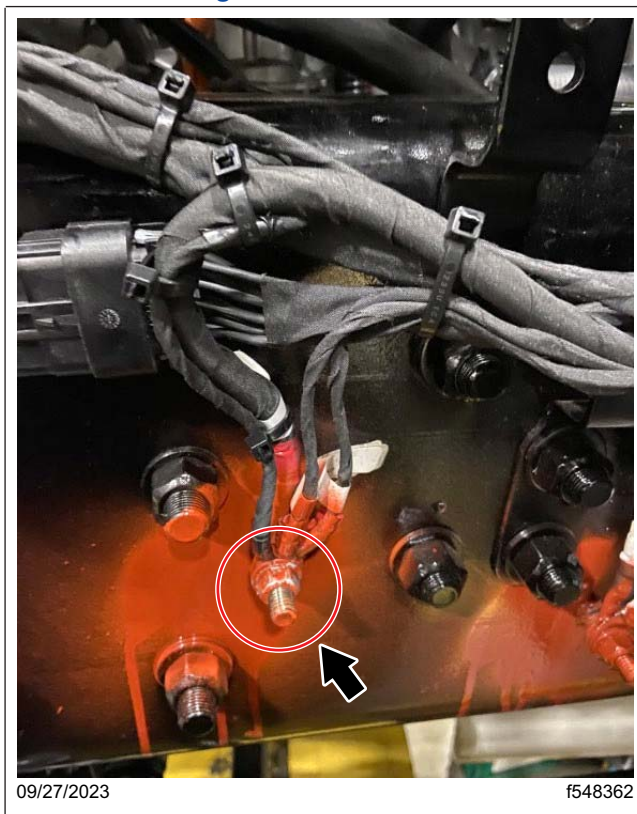

Fig. 94, Ground Stud Location
20.1 Remove the nut from the ground stud on the driver-side frame rail, near the front axle. See Fig. 94 .